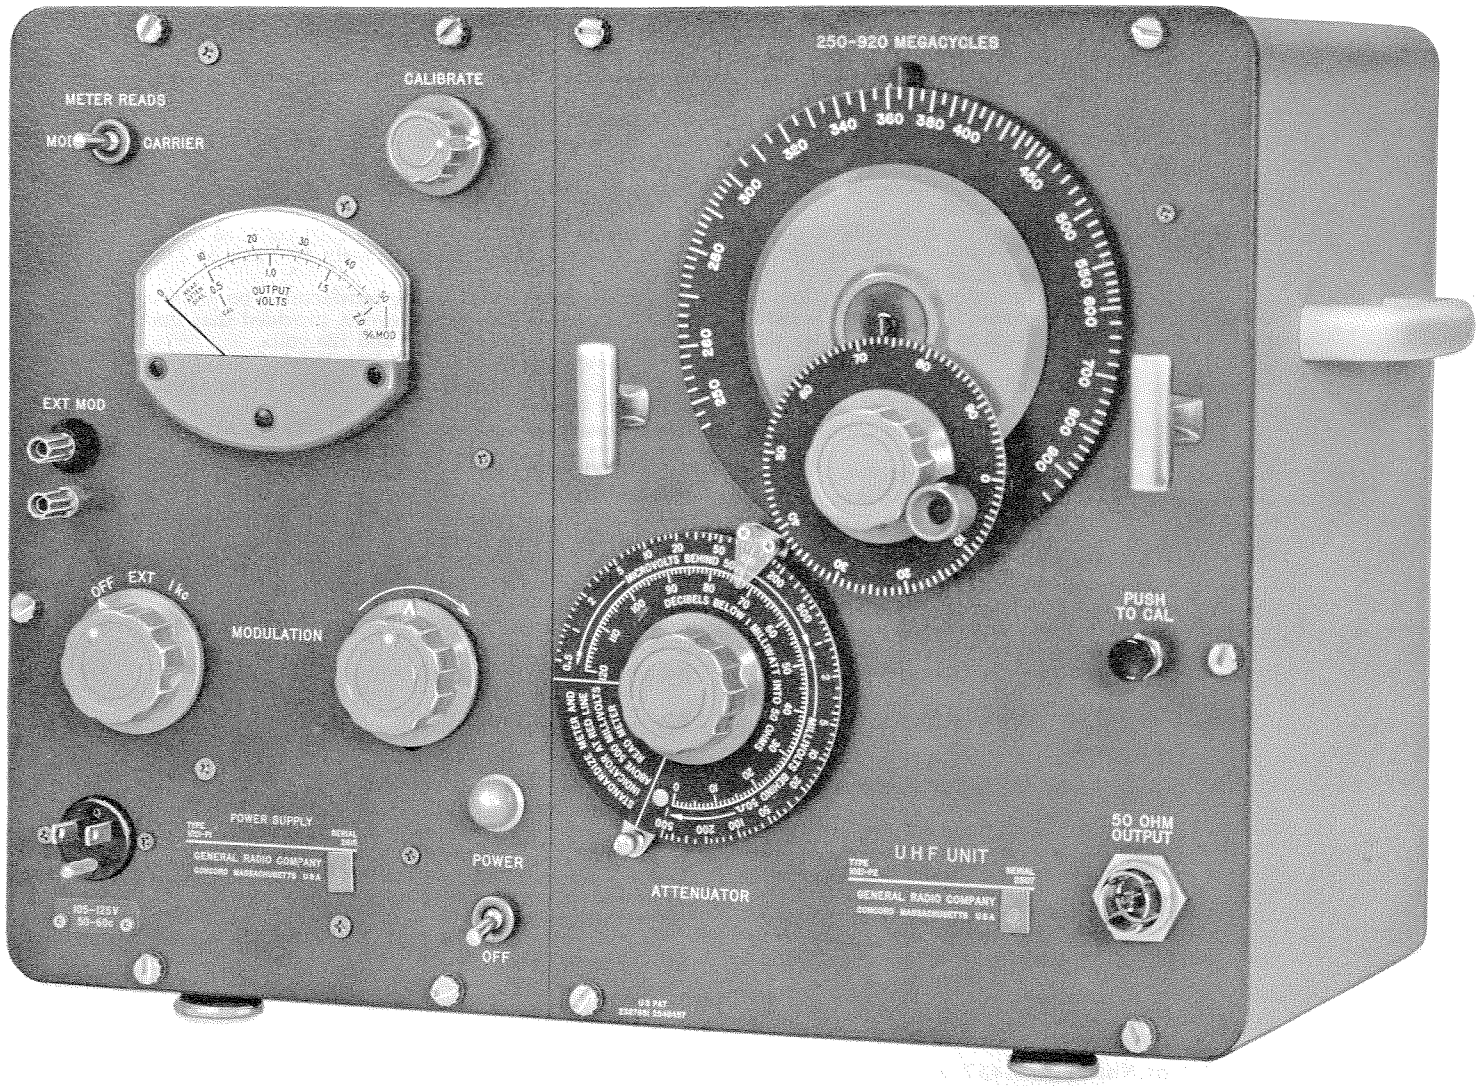

Figure 1. Type 1021-AU Standard-Signal Generator.
1.1 GENERAL. The Type 1021-AU Standard-Signal Generator (Figure 1) consists of a Type 1021-P2 R-F Unit and a Type 1021-P1 Power Supply, combined in a single aluminum cabinet. Its frequency range of 250 to 940 Mc is covered in a single band.